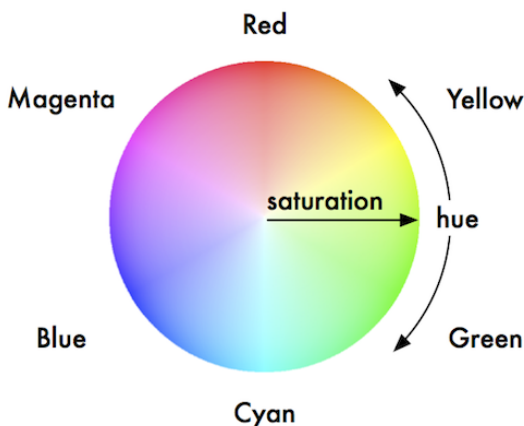

Figure 6.7. The Colour Wheel
- **Hue:** the colour's position in the possible range of colours, from red, going through yellow, green, cyan, blue and magenta, and finally returning to red. As the range 'wraps around', you can visualise it as a circle with the colours positioned around the edge, with red at the top, green at the lower right, blue at the lower left, and the intermediate colours in between. The angle between 0 and 360 degrees specifies the hue of the colour: red has a hue of 0 degrees, yellow has a hue of 60 degrees, and cyan has a hue of 180 degrees. See *Figure 6.7, "The Colour Wheel"*.